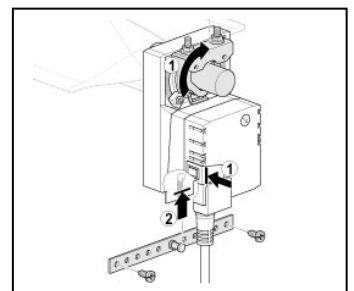

Fig A-2
7. Slide the anti-rotation strap under the actuator (bend strap to fit contour of round damper). Place the strap halfway into the cutout, and secure with two self-tapping sheet metal screws. **See Fig. A-2**